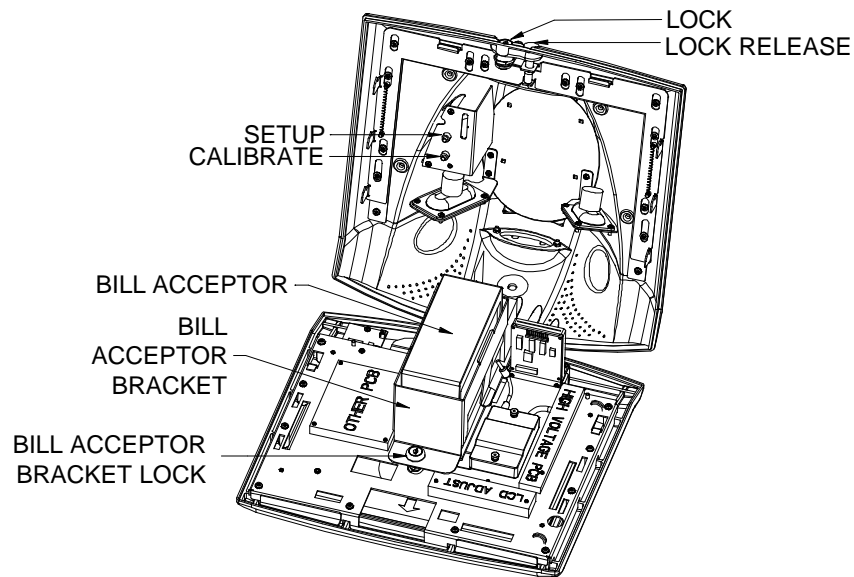

FIGURE 1 A - THE VIBE (WITH BILL ACCEPTOR) TERMINAL IN OPEN POSITION
1. Unlock the terminal and push down on the lock release while carefully opening the front of the terminal. See Figure 1.
2. Unlock the terminal and push down on the lock release while carefully opening the front of the terminal. See Figure 1.
5. Unlock the terminal and push down on the lock release while carefully opening the front of the terminal. See Figure 1.
6. Unlock the terminal and push down on the lock release while carefully opening the front of the terminal. See Figure 1.